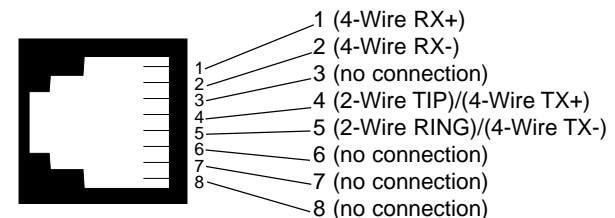

Figure 7: RJ-45 Line Interface
2. To function properly, the Model IM2RC/F-128K needs one or two **twisted** pairs of metallic wire. The twisted pairs must be **unconditioned**, dry, metallic wire, between 19 (.9mm) and 26 AWG (.4mm) (Appendix B describes cable requirements) . Standard dial-up telephone circuits, or leased circuits that run through signal equalization equipment, or standard, flat modular telephone type cable, are *not acceptable*. Figure 7, below, shows the pin/signal relationships of the Line Interface Port.